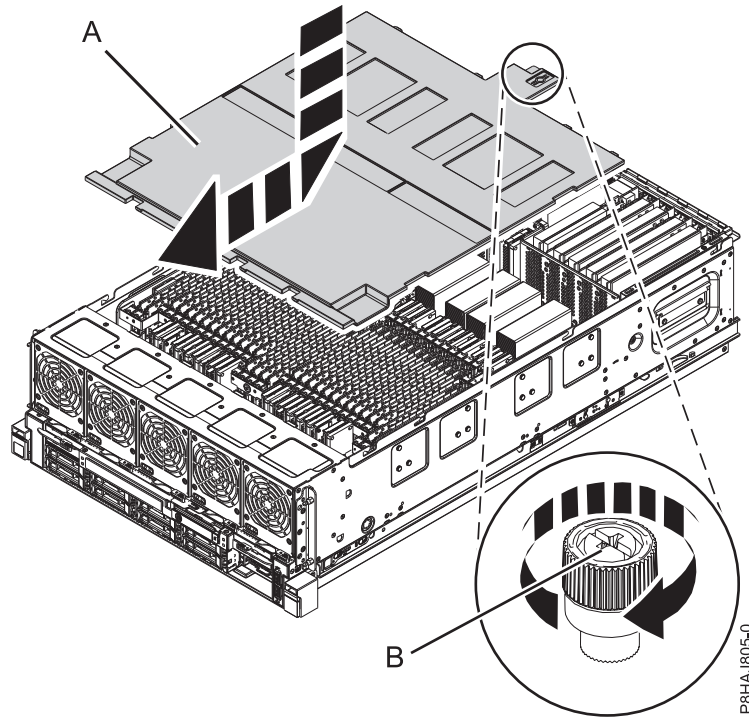

Figure 32. Replacing the safety cover
2. Push the safety cover (A) toward the chassis.
3. Tighten the thumbscrew (B) by turning it in the direction shown in Figure 32 on page 51 to fix the safety cover to the chassis.